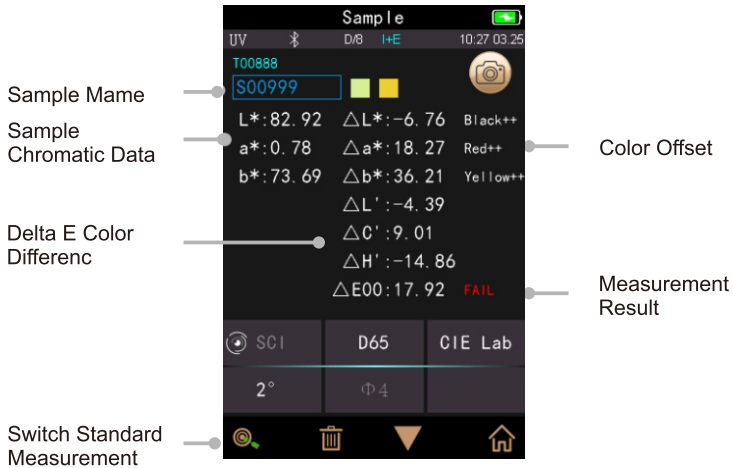
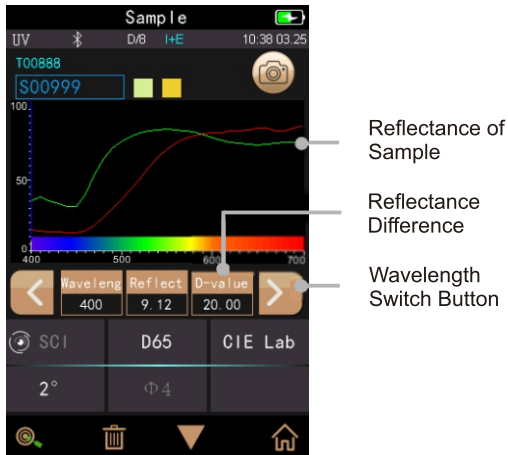

Figure 11 Sample Measurement
Figure 12 Reflectance of Sample Measurement
After testing the standard, click "Sample measurement" to enter Sample Measurement interface. It is the same steps with standard measurement. After measurement, it will display as shown in Figure 11 and in Figure 12.
9) Wavelength switch button: As shown in Figure 12, click < or > , the wave length and reflectance of the current sample will switch as range of 10nm interval.